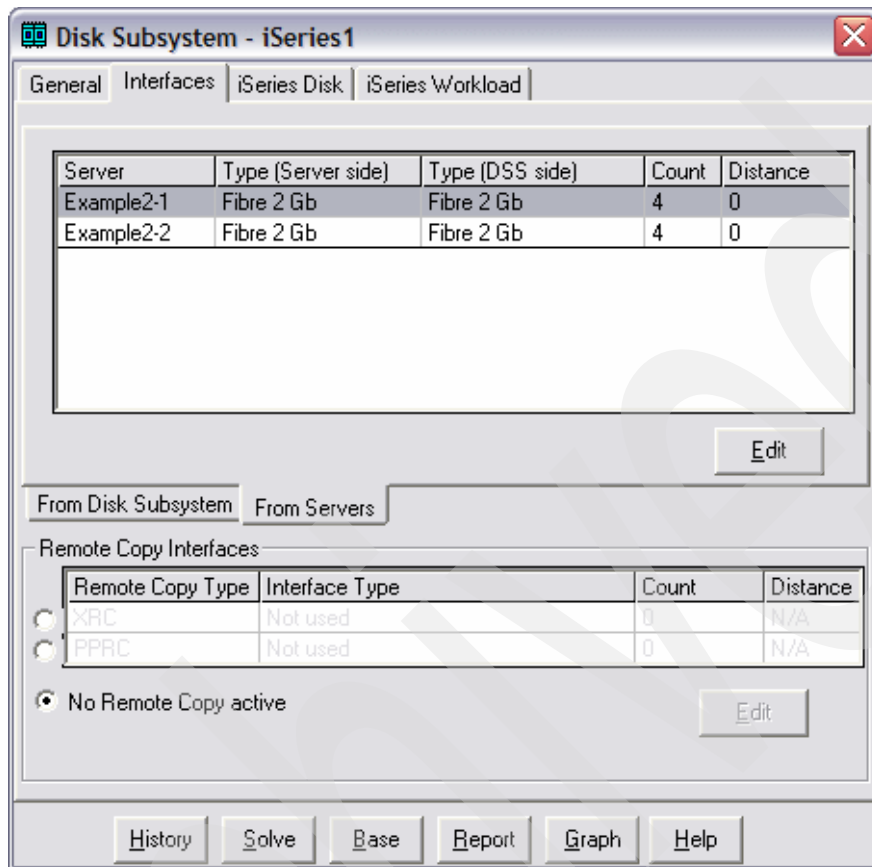

Figure 4-56 Current interfaces
- b. To model the number of System i5 adapters, select the Interfaces tab, and then select the From Servers tab. You see the current workloads with the four default interfaces (see Figure 4-56). For each workload, highlight the workload, and click **Edit**.